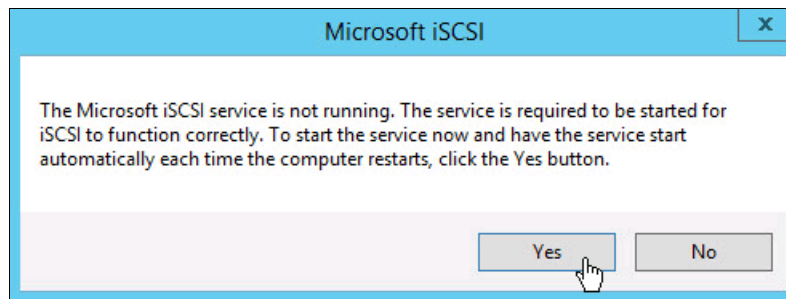

Figure 5-11 Automatic start of the iSCSI service
3. Confirm the automatic start of the iSCSI service (see Figure 5-11).